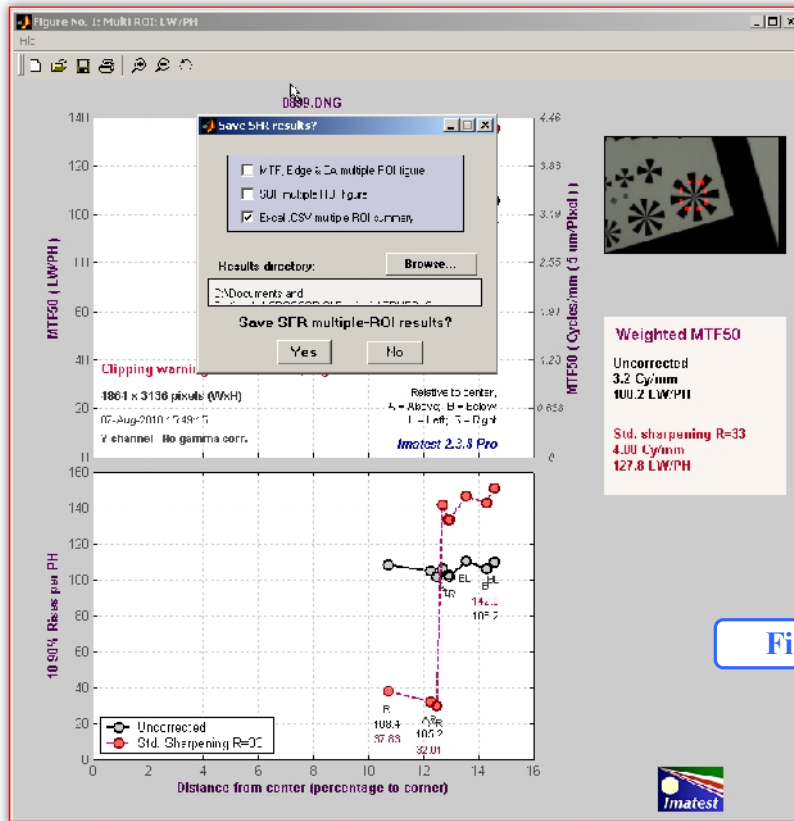

Fig. 16
- 8) When done, Imatest™ will present you a new window asking for further saving possibilities (Fig. 16). Just check the last one, “Excel .CSV multiples ROI summary” and click on “Yes”.